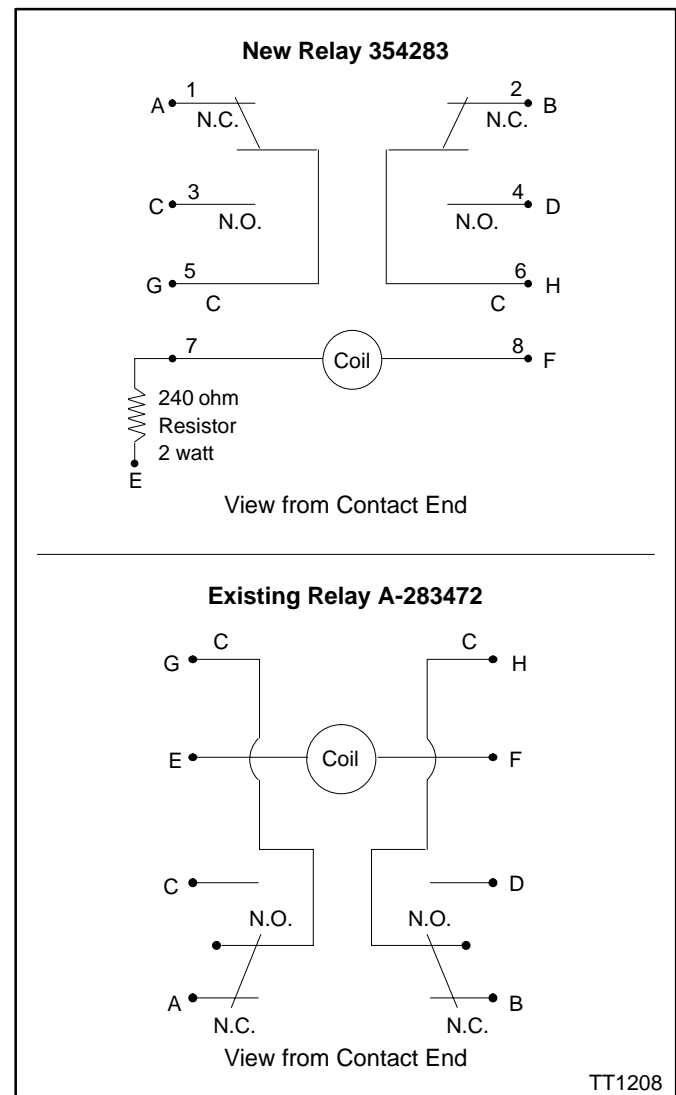

Figure 1. Relay Wiring Diagrams—shown de-energized
5. Disconnect leads of relay (A-283472) to be replaced. Take notes of lead identification. Use masking tape to mark each lead with the letters indicated on the wiring diagram in Figure 1.
12. Connect leads to the new relay following the wiring diagram in Figure 1. Be sure to connect the 240 ohm voltage dropping resistor (X-6066-1) in series with the coil at pin 7. Without the resistor the coil will burn out from excessive voltage.